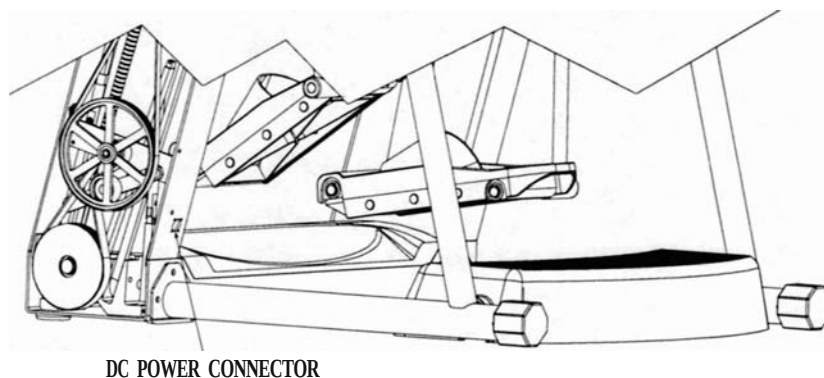

Figure 6: DC Power Connector
1. Remove the external power supply from the shipping box. Connect the DC power cable to the DC power connector located on the lower left side (see Figure 6).